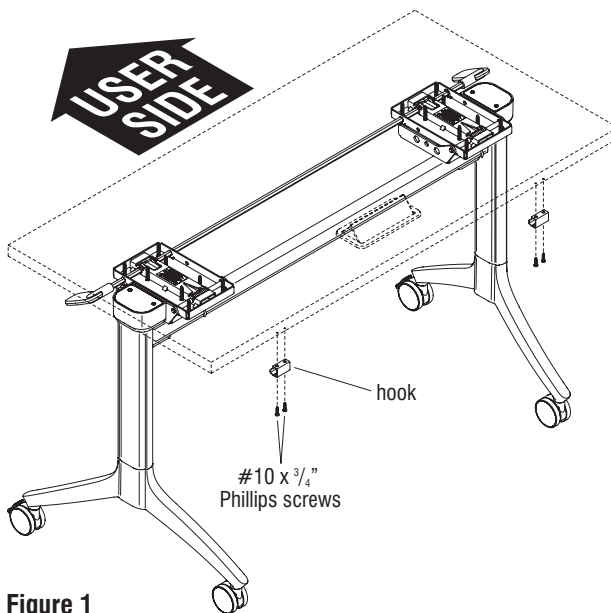

Figure 1
1. Position one hook underneath the back, non-user side of the tabletop at the pre-drilled location as illustrated in Figure 1 & Detail A. Orient the hook to face the user side of the table. Align the mounting holes of the hook with the pre-drilled holes underneath the tabletop and secure using two #10 x 3/4" Phillips screws. Repeat this process to secure the remaining hooks to the table (Figure 1 & Detail A).